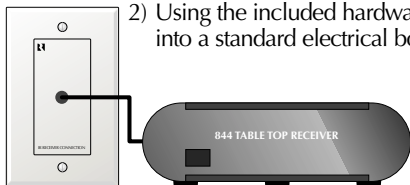

Figure 2
- 1) Connect the 3 conductor 1/8" plug of the tabletop IR receiver, such as Russound Pt. No. 844, to the 1/8" jack located on the front of the IRB-1 as shown in Figure 2.